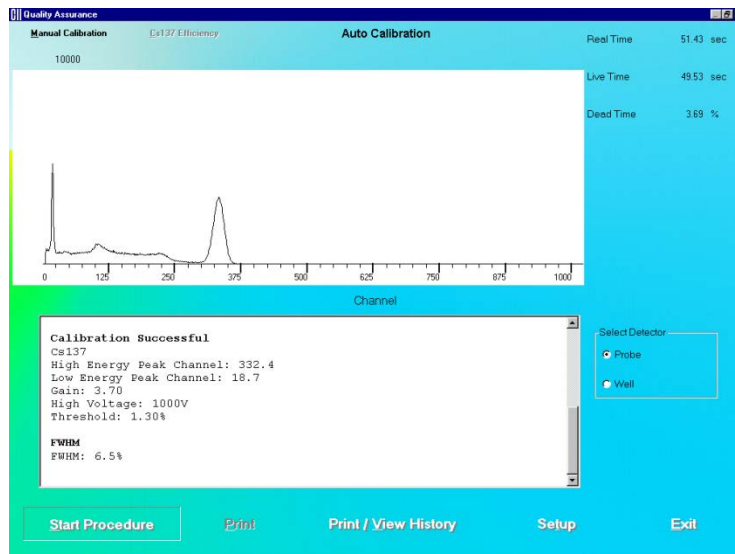

Figure 5-5
- After calibration is completed, the results box will display “Calibration Successful” as shown in Figure 5-5 below.